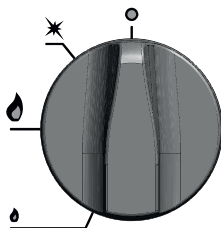

Figure 6. Setting a knob in the position, in which the gas supply to the burner is completely cut off.
- Make sure that all the knobs of the unused burners are in the „closed burner” position (Fig.6). pilot knobs of stove burners are placed on the right side of the control panel (Fig.1, item 6).
- When the burner is not longer in operation, close the gas supply by turning the pilot knob clockwise to the „closed” position (Fig. 6). **Attention! When using LPG, before switching off the burner with the knob, the cylinder valve must be closed!**